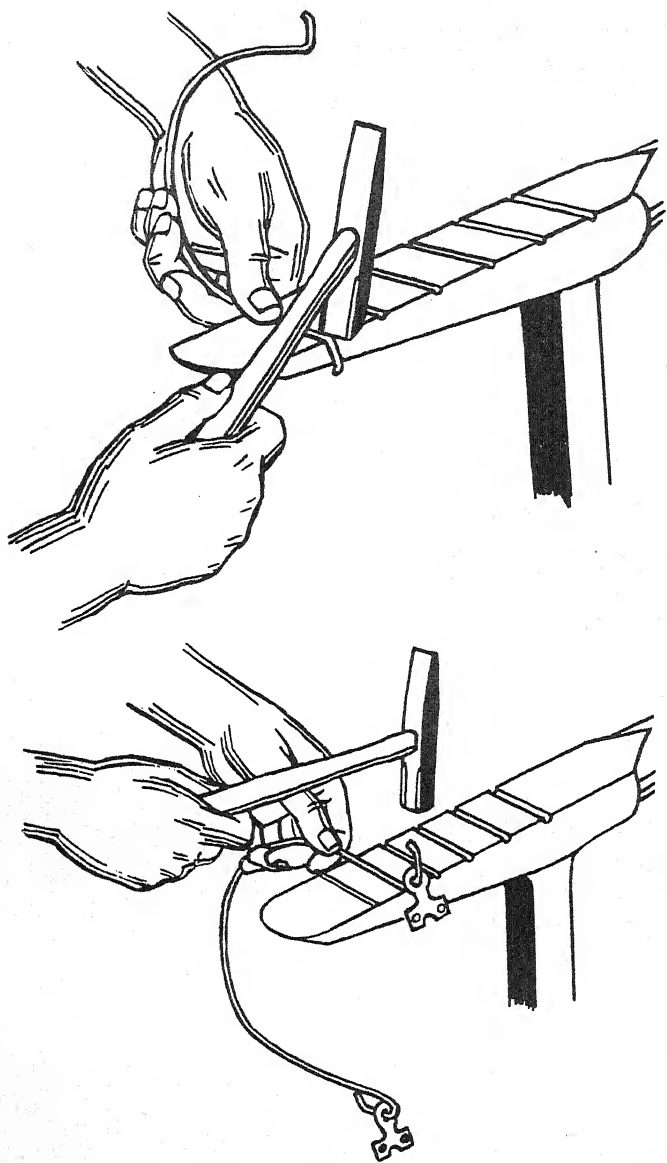

Figure 301. — Forming a bail.
Many of your jobs will require a bail (that's the metal-trade's name for a wire handle). You could make this bail, or handle, in a vise, but you can do the job a lot faster and better by using a creasing stake as illustrated in figure 301. The bail is attached to small ears, or tabs, which are in turn secured to the bucket or container. To form the bail end—
3. Revolve the wire so that the bent end points up. Slip on the ear and, with inward blows, strike the end of the wire to form the loop around the ear (see figure 301).